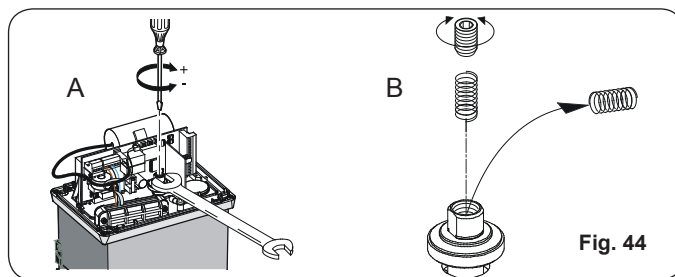

Fig. 44
- Keep the motor shaft locked with a wrench and turn the clutch adjustment screw with an Allen wrench or screwdriver as shown in Fig. 44 Ref. A.
- ➔ The operator is supplied as standard with a clutch adjustment spring for gates up to 2200 lbs. For heavier gates, use the supplied alternative spring. For spring replacement instructions, see Fig. 44 Ref. B.